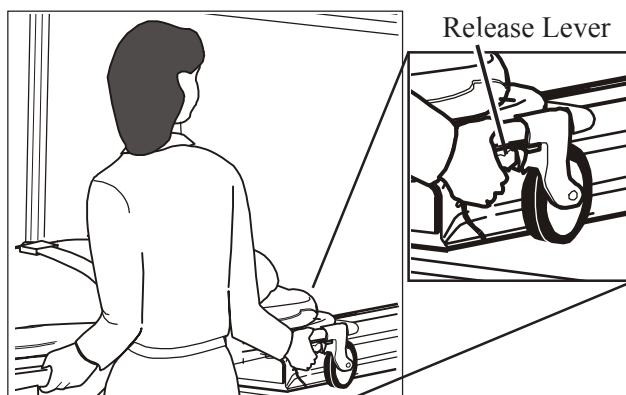

Figure 29 - Releasing the Cot
10. *Head-End Operator*: Release cot from cot fastener by squeezing fastener release lever located on cot (Figure 29).